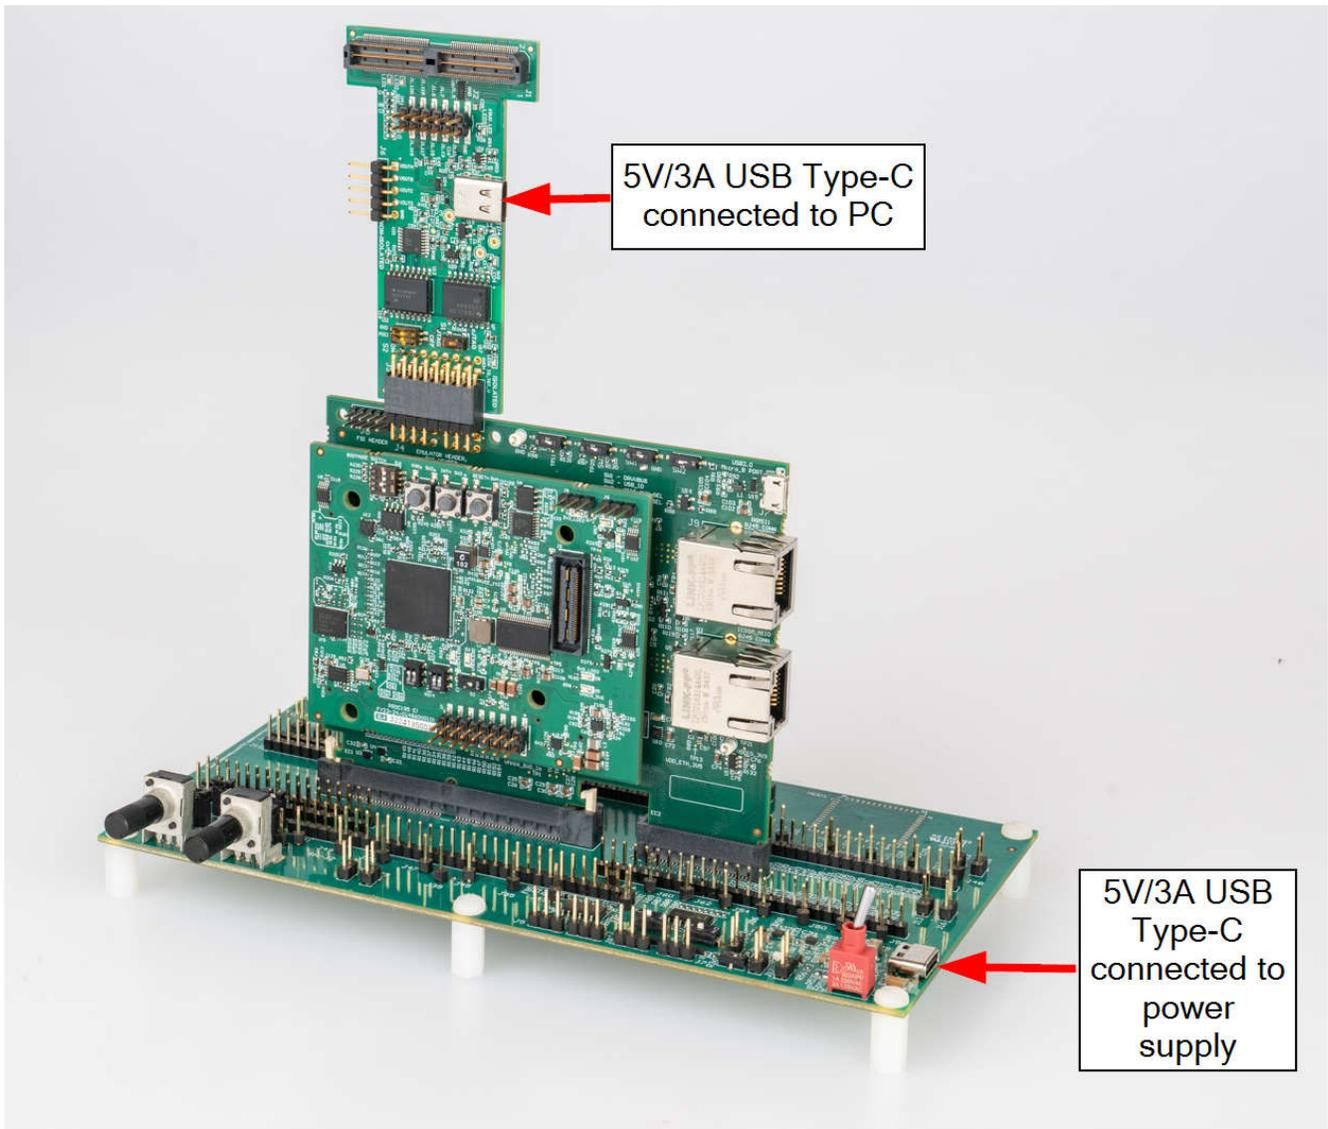
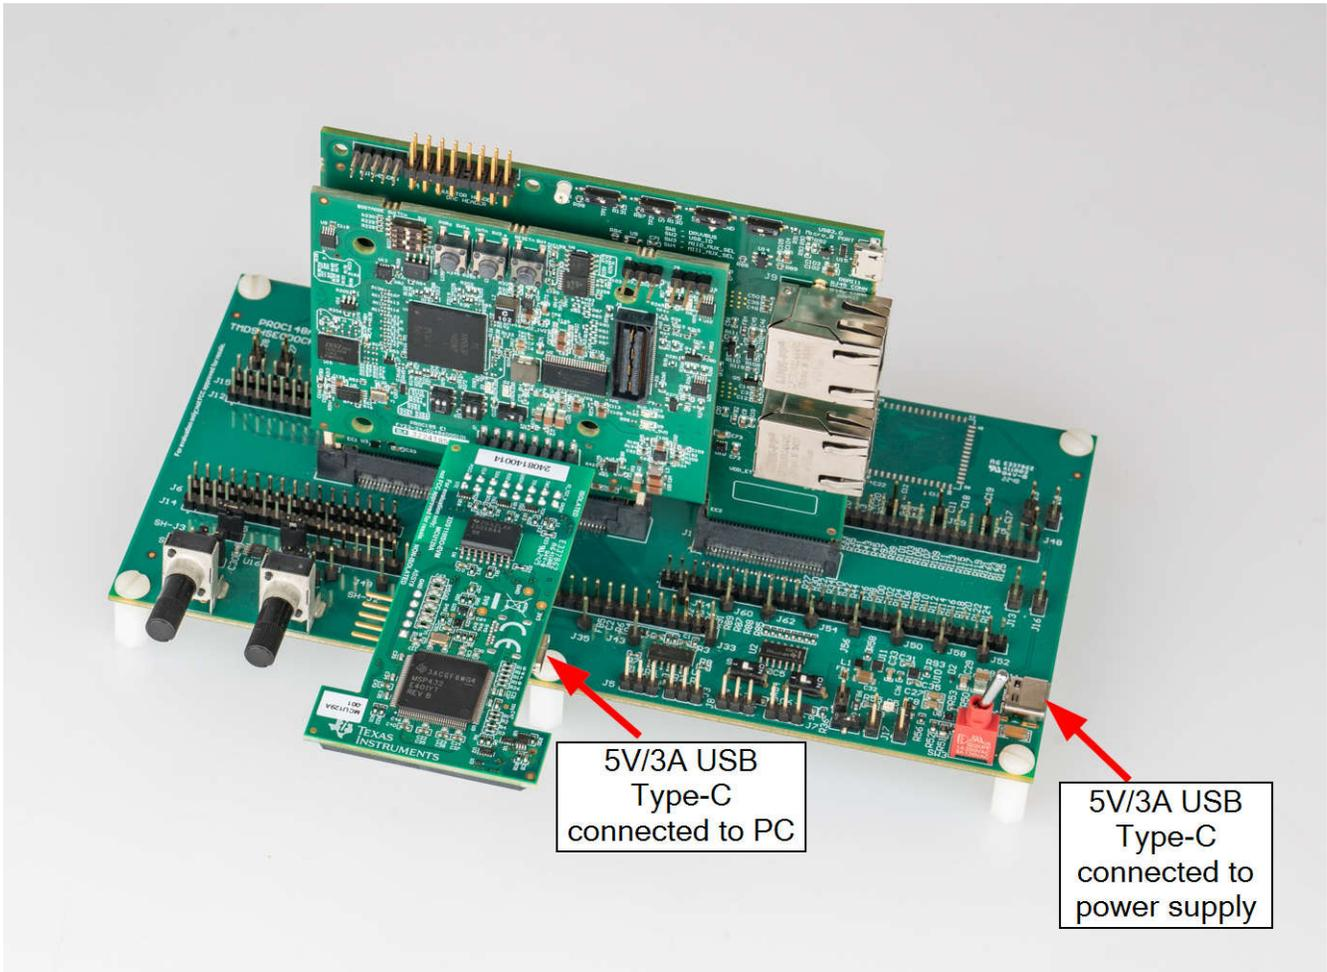

Figure 2-1. AM26x controlCARD Backward Compatibility Configuration - XDS110ISO connected to HSEC180ADAPEVM-AM2 J4
Figure 2-2. AM26x controlCARD Backward Compatibility Configuration - XDS110ISO connected to controlSOM J7
6. Connect the XDS110ISO-EVM into the connector J4 of the HSEC-180 adapter board (Figure 2-1) OR J7 (Figure 2-2) of the controlSOM.